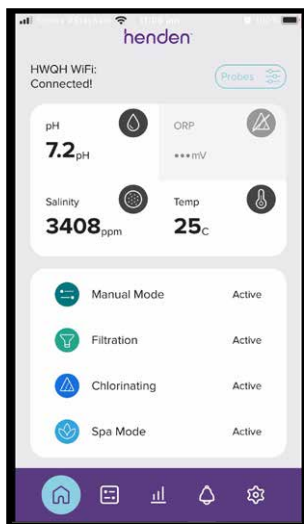

Figure 9.72
- Once back at the dashboard "Spa Mode Active" will now appear (refer Figure 9.72).